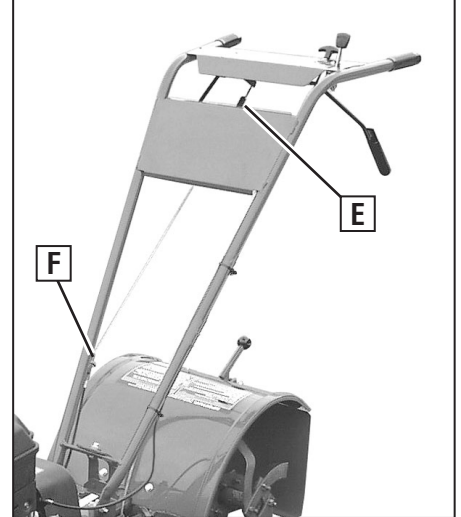
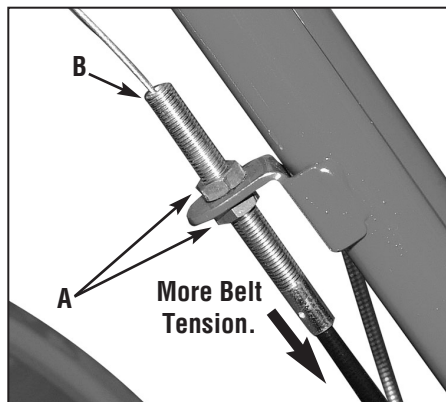

Figure 5-10: Location of forward clutch cable spring (E) and forward cable adjuster (F).
Figure 5-12: Move forward clutch cable adjuster down for more belt tension.
2. The coiled part of the forward clutch spring (E, Figure 5-10) measures 2" in length when the Forward Clutch Control levers are not pulled up. Pull either Forward Clutch Control Lever up against the handlebar and measure the length of the coil on the forward clutch spring. Tension is correct if the length of the extended coil is 2-1/2" (see Figure 5-11). The forward clutch control cable needs adjustment if the extended length of the coil is not 2-1/2". See *Adjusting the Forward Clutch Belt* for a procedure.
forward clutch cable adjuster (F, Figure 5-10). Use two 1/2", open-end wrenches to loosen the two jam nuts (A, Figure 5-12) a few turns.
3. Move cable adjuster (B, Figure 5-12) downward for more belt tension (see Figure 5-12).